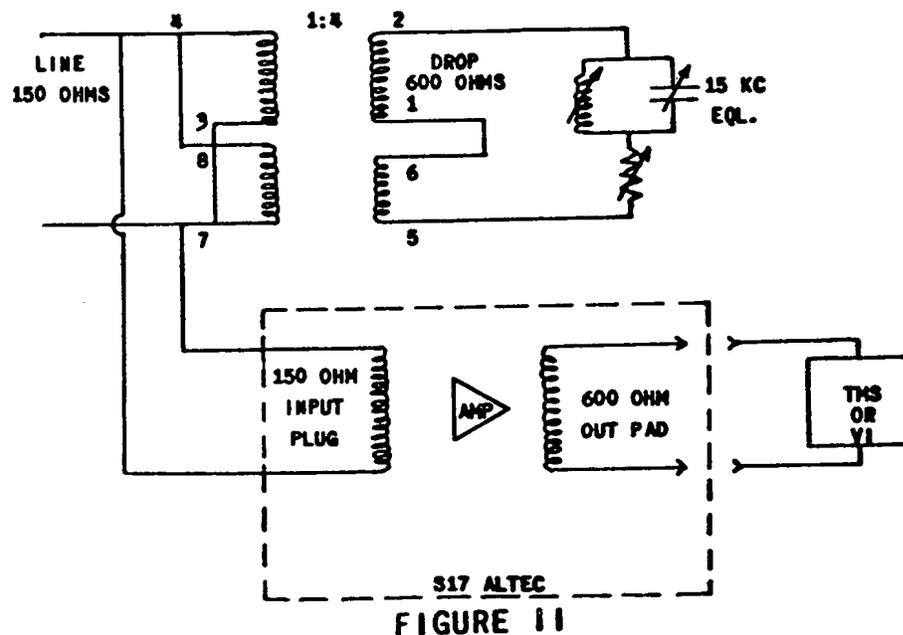

FIGURE 11
- (1) Remove 23A equalizer leads from equalizer punchings on terminal strip associated with amplifier to be used.
- (2) Place leads from these punchings to the line side of the 15KC equalizer repeating coil.
- (3) Wire 15KC equalizer repeating coil for 1:4 ratio low impedance side toward the line. The S17 input impedance matching plug should be in the 150-ohm position. With this arrangement all the jacks associated with the S17 can still be used.
- (4) Place the output pad in the 600-ohm position when equalizing and setting output level.
- (5) After equalization is completed and output level is set, place the output pad in the 150-ohm position when the amplifier feeds nonloaded cable facilities or in the 600-ohm position when the amplifier feeds loaded facilities.
- (6) The connections for the 15KC equalizer associated with the S17 Altec amplifiers as shown in Figure 11.